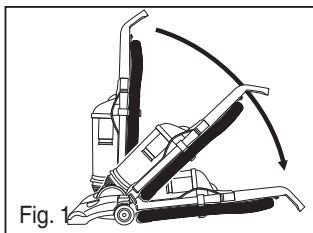

Fig. 1
Step on release a second time to go to lowest position (Fig. 1).
- 1) Remove hose from hose retainer. Flexing the hose will loosen any blockage (Fig 1).